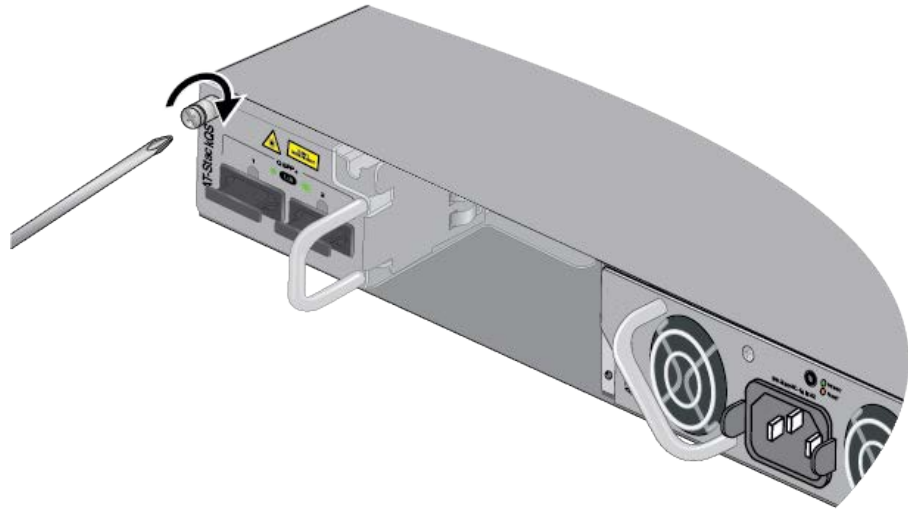

Figure 35. Tightening the Captive Screw on the Card
10. Tighten the captive screw to secure the card in the switch. Refer to Figure 35.